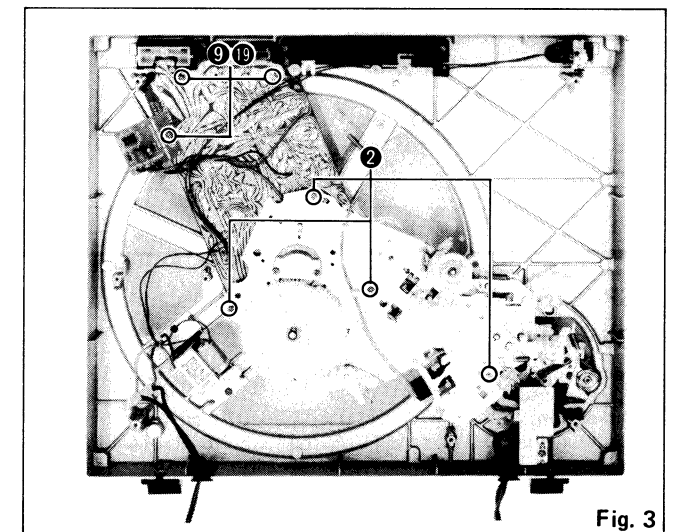

Fig. 3
2. Remove 7 setscrews ②, ④ of the drive P.C.B. and auto mechanism ass'y. (See Fig. 3)